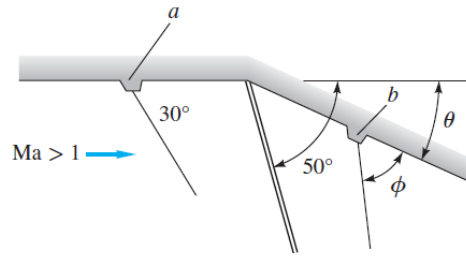

Fig. 9.13
9.13 Air flows at supersonic speed toward a compression ramp, as in Fig. 9.13. A scratch on the wall at point a creates a wave of 30° angle, while the oblique shock created has a 50° angle. What is a) the ramp angle θ and b) the wave angle ϕ caused by a scratch at b?